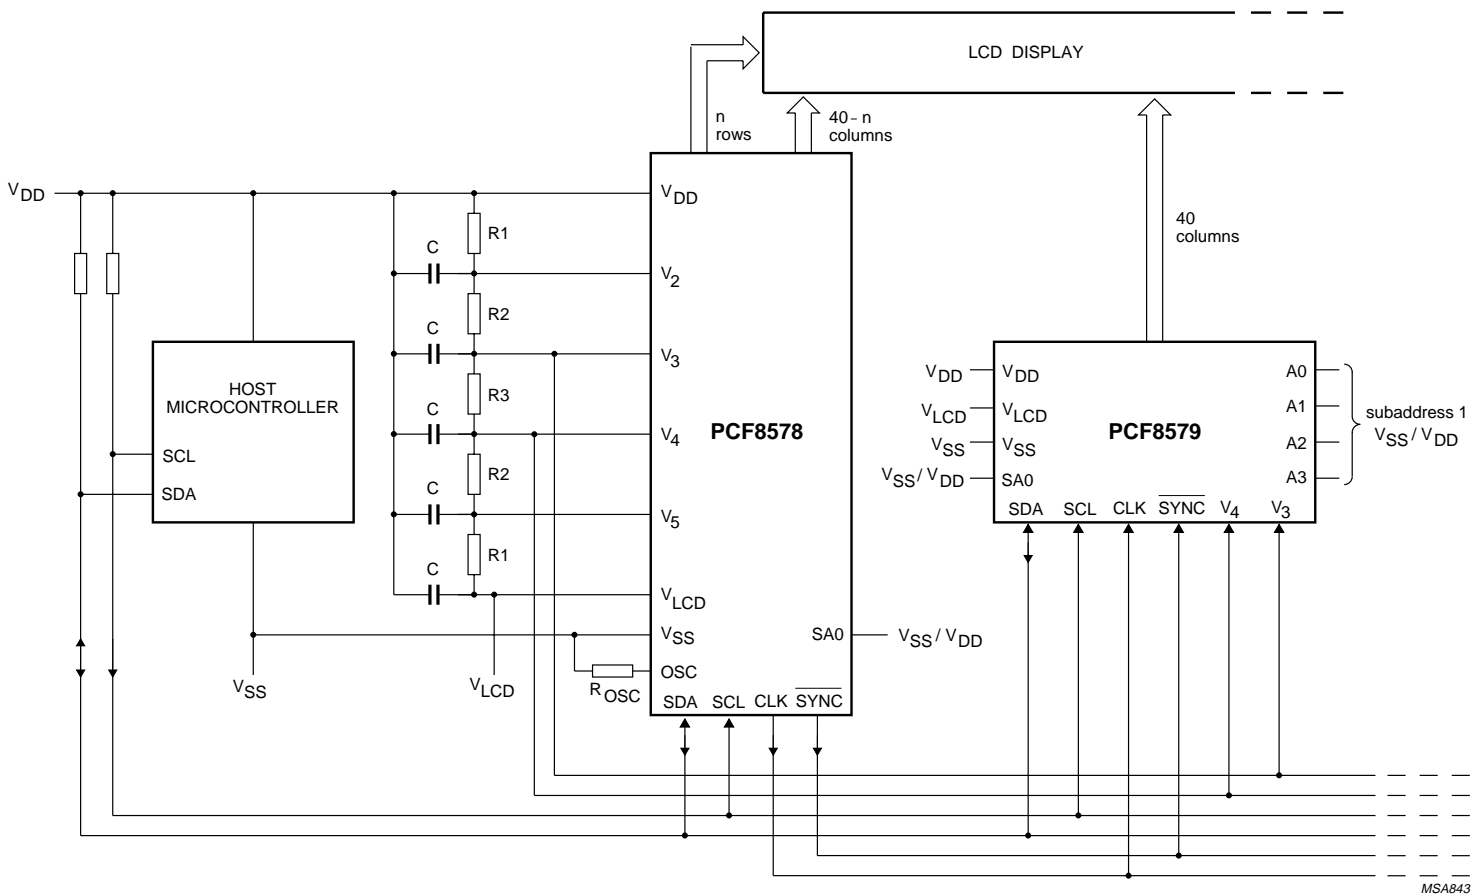

Fig.5 Typical mixed mode configuration.
Bias levels may be generated by an external potential divider with appropriate decoupling capacitors. For large displays, bias sources with high drive capability should be used. A typical mixed mode system operating with up to 15 PCF8579s is shown in Fig.5 (a stand-alone system would be identical but without the PCF8579s).
The bias levels required to produce maximum contrast depend on the multiplex rate and the LCD threshold voltage (V_{th}). V_{th} is typically defined as the RMS voltage at which the LCD exhibits 10% contrast. Table 2 shows the optimum voltage bias levels for the PCF8578 as functions of V_{op} ($V_{op} = V_{DD} - V_{LCD}$), together with the discrimination ratios (D) for the different multiplex rates. A practical value for V_{op} is obtained by equating $V_{off(rms)}$ with V_{th} . Figure 4 shows the first 4 rows of Table 2 as graphs. Table 3 shows the relative values of the resistors required in the configuration of Fig.5 to produce the standard multiplex rates.
Table 3 Multiplex rates and resistor values for Fig.5